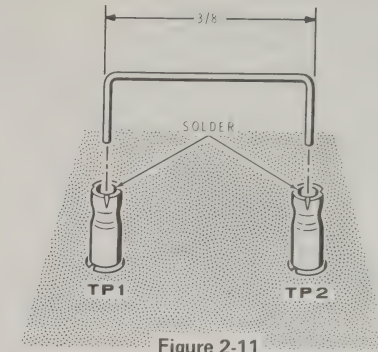

Figure 2-11
- () Refer to Figure 2-11 and cut a capacitor lead (laid aside earlier) to 5/8". Bend the ends down to form a U-shaped connector. Place the ends in connector pins TP1 (S-1) and TP2 (S-1).